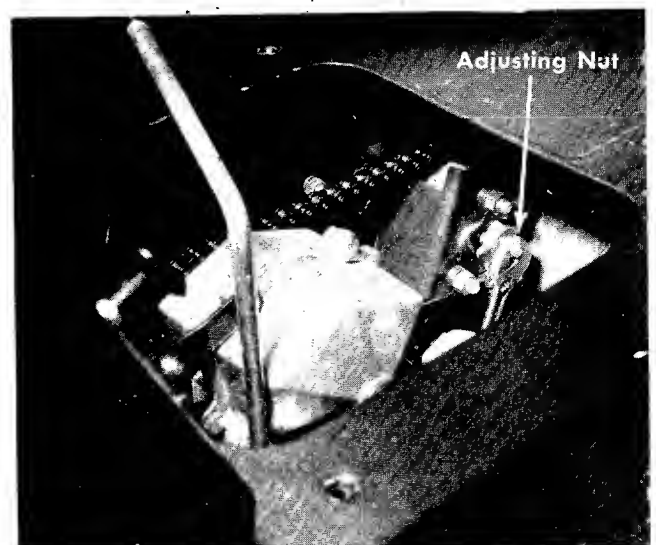

**FIGURE 35. REMOVING THE UPPER BELT**
- Step 12. Unhook the upper belt from the engine pulley and remove. See figure 35.